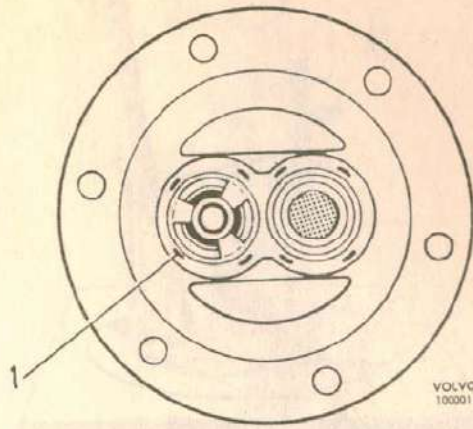
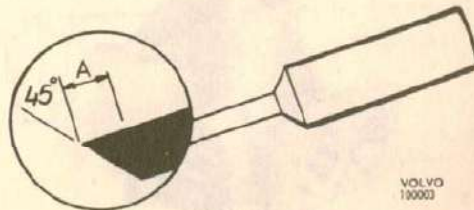

Fig. 1-84. Fuel pump late prod.
Fig. 1-85. Punch
6. Upset the material round each valve in four places, see Fig. 1-84, with a punch as shown in the figure 1-85.